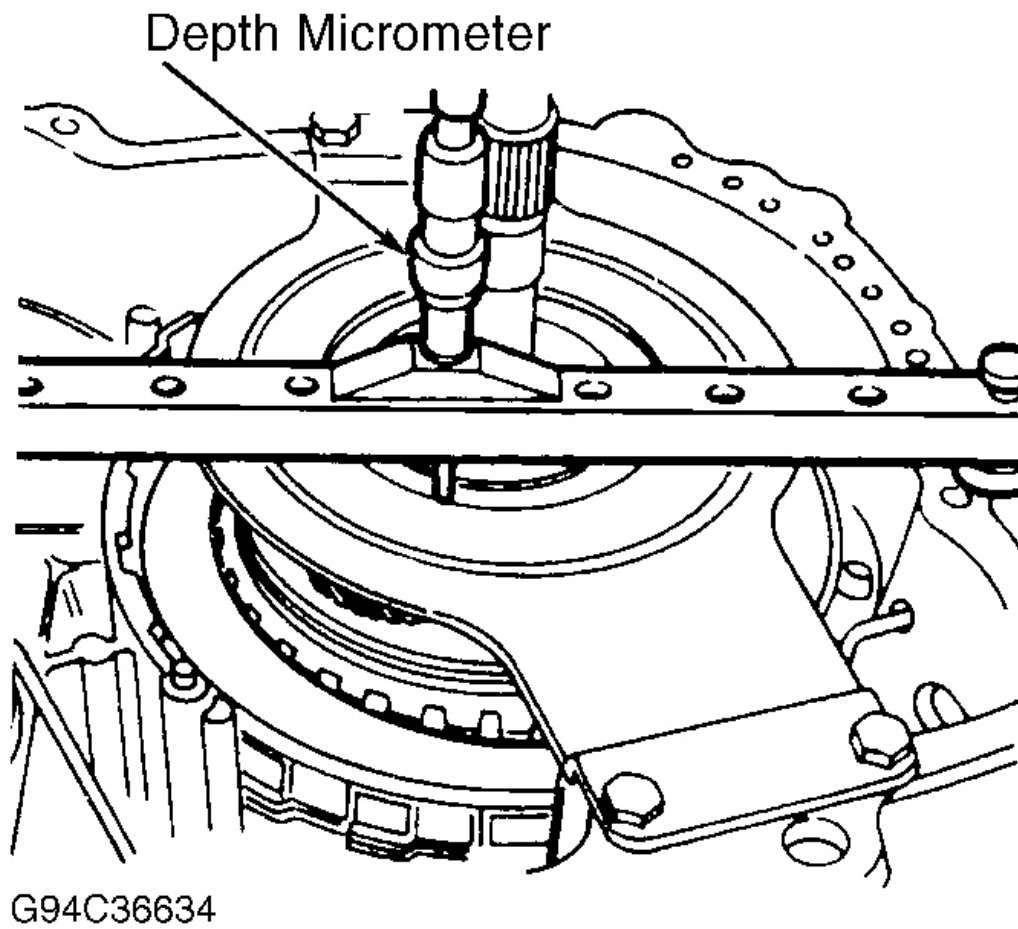

Fig. 28: Measuring Dimension "B"
9. Install manual valve detent lever actuating rod. Install Preload Tool Adapter/Aligner Set (T94P-77000-R), on reverse/overdrive planetary carrier assembly. See **Fig. 26** through **Fig. 28** . Tighten mounting bolts to 119 INCH lbs. (13.5 N.m).
10. Install Gauge Bar (T94P-77000-Q), with short spacers across transaxle case. Measure distance from top of gauge bar to No. 12 driven sprocket bearing assembly (Dimension "A"). See **Fig. 26** through **Fig. 28** .
11. Measure distance from top of gauge bar to bearing surface on reverse/overdrive planetary carrier assembly (Dimension "B"). See **Fig. 26** through **Fig. 28**. Dimension "A" - Dimension "B" = Dimension "C". Use Dimension "C" to select correct No. 11 driven sprocket shim. See **DRIVEN SPROCKET SHIM SELECTION CHART**.
13. Install Preload Tool Adapter/Aligner Set (T94P-77000-R) on reverse/overdrive ring gear. Tighten mounting bolts to 119 INCH lbs. (13.5 N.m). Install Gauge Bar (T94P-77000-Q), with short spacers across transaxle case. See **Fig. 26** through **Fig. 28**.